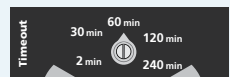

Figure 2: Timeout adjustment
9. Set the timeout knob (reset time after an underload trip) to the desired position (see figure 2).